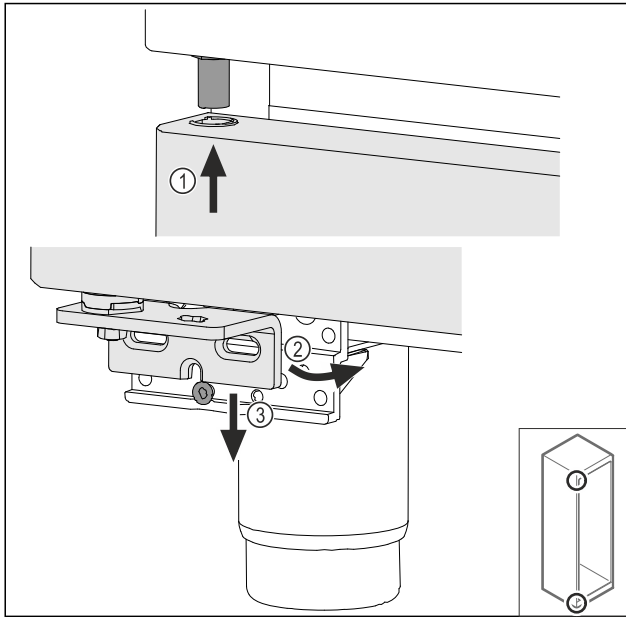

Fig. 70
- ▶ Insert the door slightly tilted at the top Fig. 70 (1), align the door straight Fig. 70 (2) and place it on the bottom of the swap bearing block screw Fig. 70 (3).